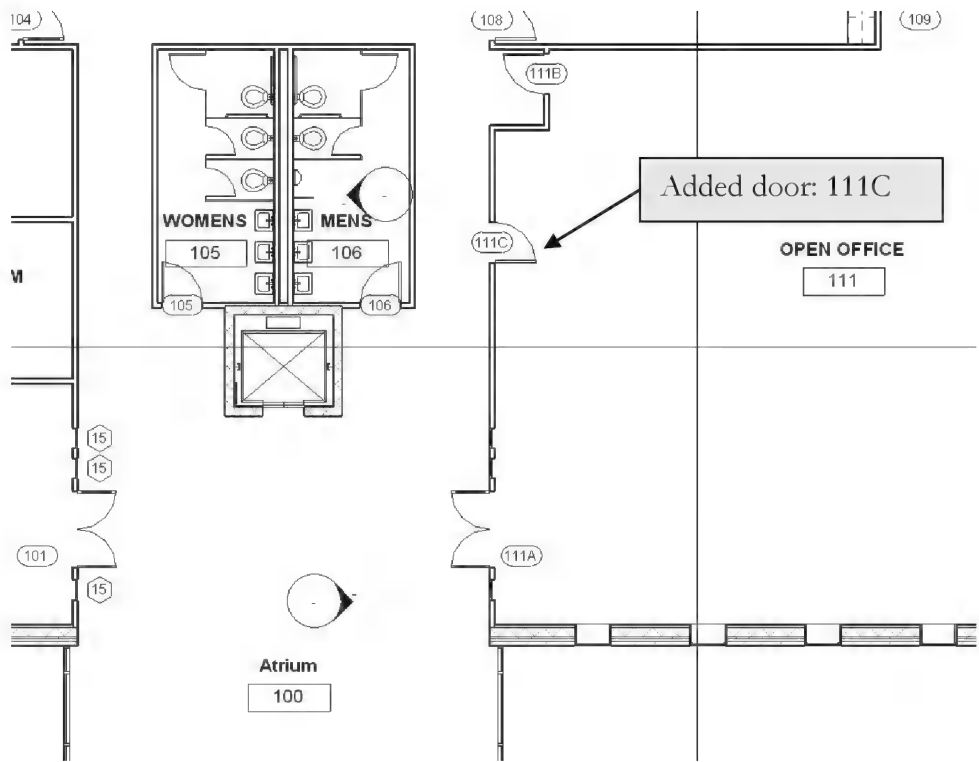

FIGURE 12-2.5 Level 1 – door added
- 8. Add a door as shown in **Figure 12-2.5**; number the door **111C**.